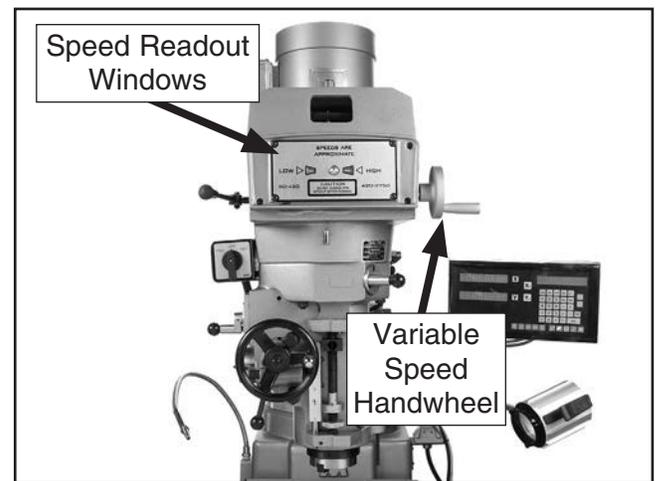

Figure 40. Variable speed handwheel and readout windows.
4. Start spindle rotation, then rotate variable speed handwheel until desired spindle speed is displayed in speed readout window on head, shown in **Figure 40**.